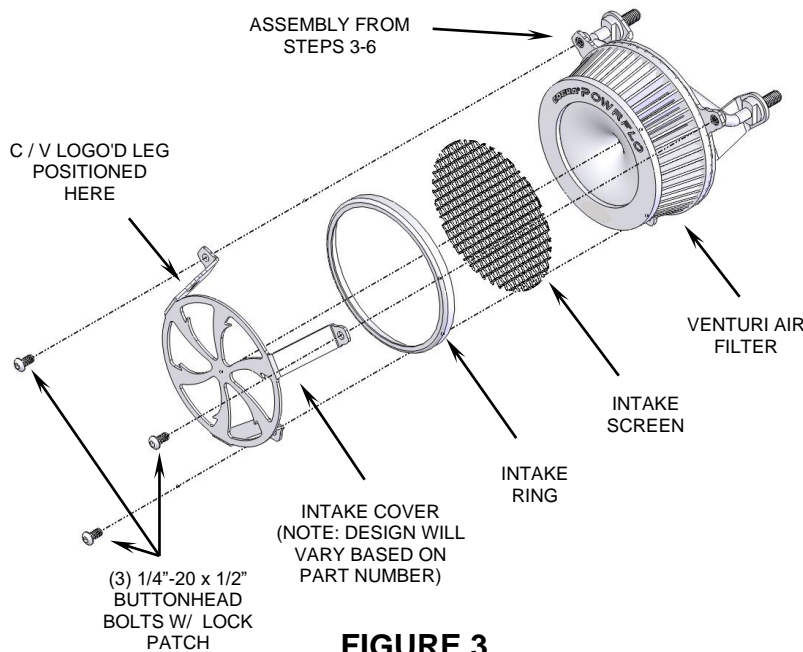

FIGURE 3
8. Place the supplied venturi filter onto the velocity stack. Insert the round intake screen into the black ring so the screen sits inside the edge of the ring. Place the ring and screen between the legs of the naked black intake cover as shown in Figure 3.
9. Place the naked intake cover, ring and screen assembled in Step 8, over the air filter and align each leg to the base mounting plate threaded holes. Be sure screen sits at a 45 ° angle to the bottom leg, and C/V logo'd leg is at the upper left position. Insert the (3) supplied 1/4"-20 x 1/2" buttonhead bolts through the intake cover and into the base mounting plate, see Figure 3. Double check all parts are aligned properly and tighten securely.